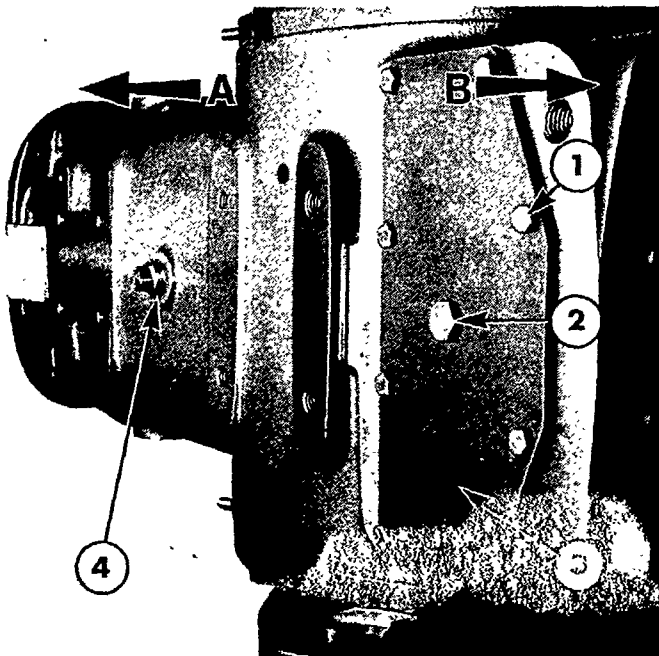

Figure 13
1. Remove the drain plug from the base plate at the rear of the centre housing, Figure 13, and drain the oil from the P.T.O. gear compartment.